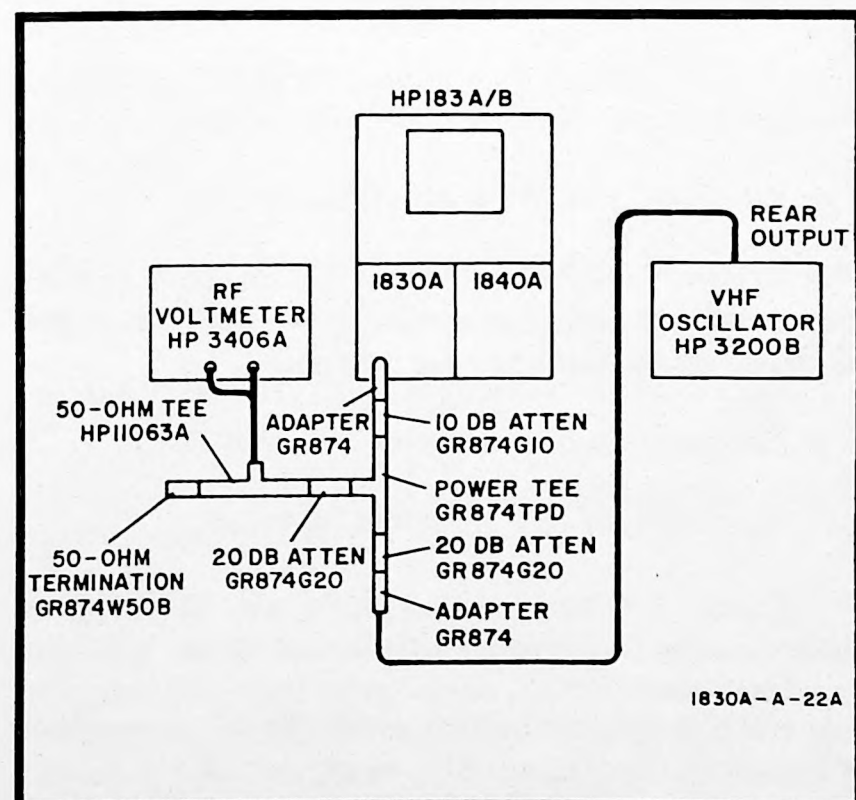

Figure 5-1. Bandwidth Test Set-up
a. Connect the VHF Oscillator and RF Voltmeter to Vertical Amplifier Channel A INPUT. (See Figure 5-1)